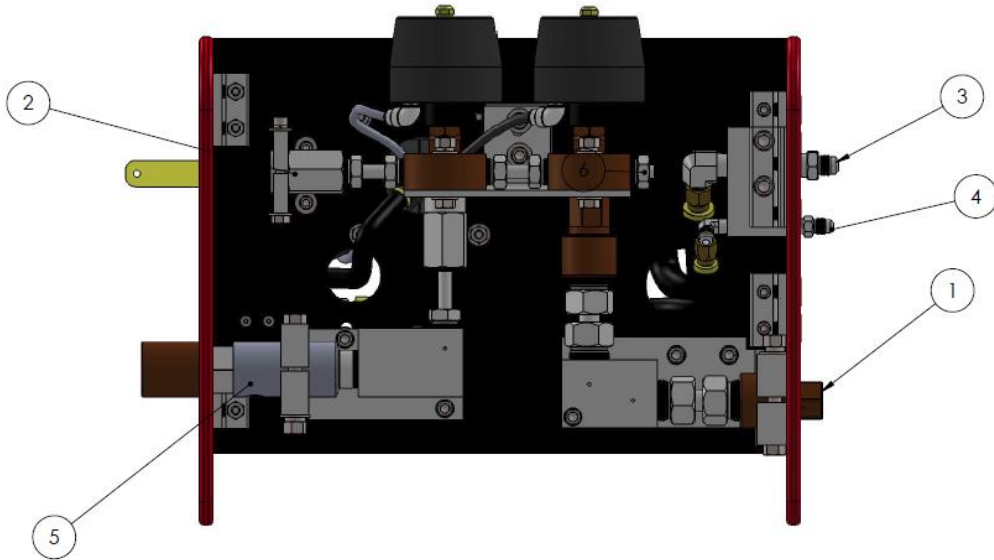

Figure 1: 408800A-1 Multimode Tumblebox, Front View
- Attach the HP hose from the pump to location #2 (ref: figure 1). **DO NOT TURN THE WATER ON.**
- Attach HP hose from location #1 (ref: figure 1) to the back of the Aqua Gun.
- Attach the larger air line from the bottom of the air motor to location #3 (ref: figure 1).
- Attach the smaller air line from the unused fitting on the second trigger of the gun to location #4 (ref: figure 1).
- Open the valve from the pump to the tumblebox increasing the water pressure. At 100lbs of air pressure and 15,000lbs of water pressure, the dump valve should begin working and water should begin coming out of the dump drain location #5 (ref: figure 1).
- \*Start the Aqua Gun, rotating and squeezing the second trigger until it closes. This will send an air signal to the box to stop dumping water and to now pressurize the gun. During this step, the operator must slightly open the bleed plug location #6 (ref: figure 1) and bleed off some water to allow any trapped air in the system to be removed. When the gun becomes pressurized, close the bleed plug location #6 (ref: figure 1). The unit is now ready to operate. **NOTE: Always bleed the lines when setting up to blast as excess air will either prevent the valve from working or cause poor performance during operation.**
- Remove the hose from location #3 (ref: figure 1) either at the pilot valve fitting or at the black canister.
- Remove the hose at location #4 (*ref: figure 1*) of the pilot valve.
- ❖ If air comes out of the hose location #4 (*ref: figure 1*) but NOT out of the pilot valve lines at locations #3 or #6 (*ref: figure 1*) during troubleshooting, the pilot valve assembly is either defective or worn out and must be replaced.
- Verify the dump drain location #5 (*ref: figure 1*) is clear.